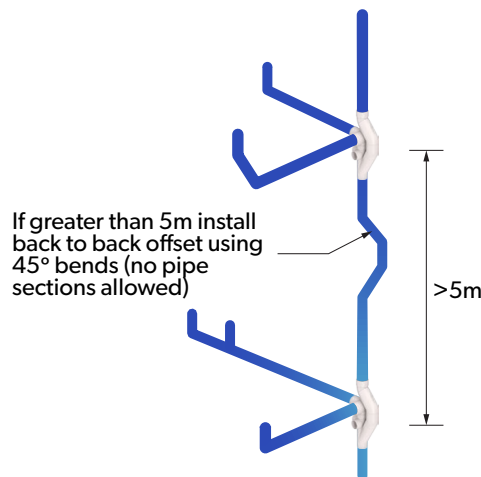

Figure 3 - Double inline offset
- 3.2** The pressure relief line on a de-aerator shall run a minimum distance of 2.5m from the centreline of the stack to the centre of the relief vent inlet junction. No connection can be made into the relief vent pipe. No connections can be made to the de-aerator base pipe within 2.5m of the stack base (see figure 3).
- 4.6 Where branch relief vents are required to enter the main stack, they must enter downwards at 45° with the highest section of vent being a point higher than the flood rim level of lowest fixture on the floor level (see figure 3).